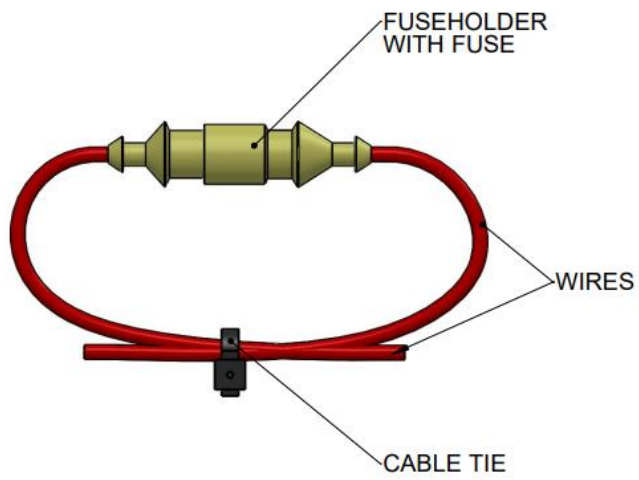

Figure 21: HHB Fuse Holder Assembly
8. Loop the wires and secure both wires together with a cable tie as shown in **Figure 21: HHB Fuse Holder Assembly**.